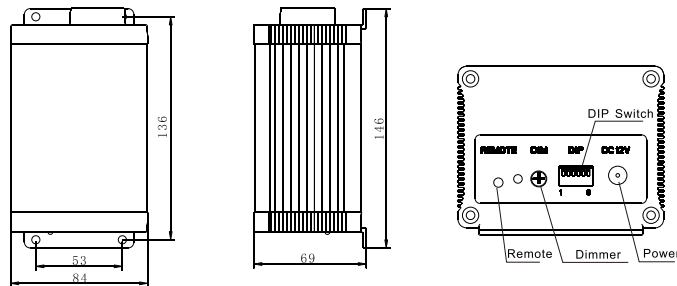

Fig. 1
1. Installing size and rear panel of LLE-005 (see fig. 1):